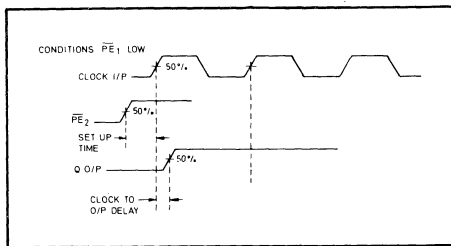

Fig. 3 Set-up timing diagram
- Set-up time is defined as the minimum time that can elapse between a L \rightarrow H transition of a control input and the next L \rightarrow H clock pulse transition to ensure that the ± 10 mode is forced by that clock pulse (see Fig. 3).